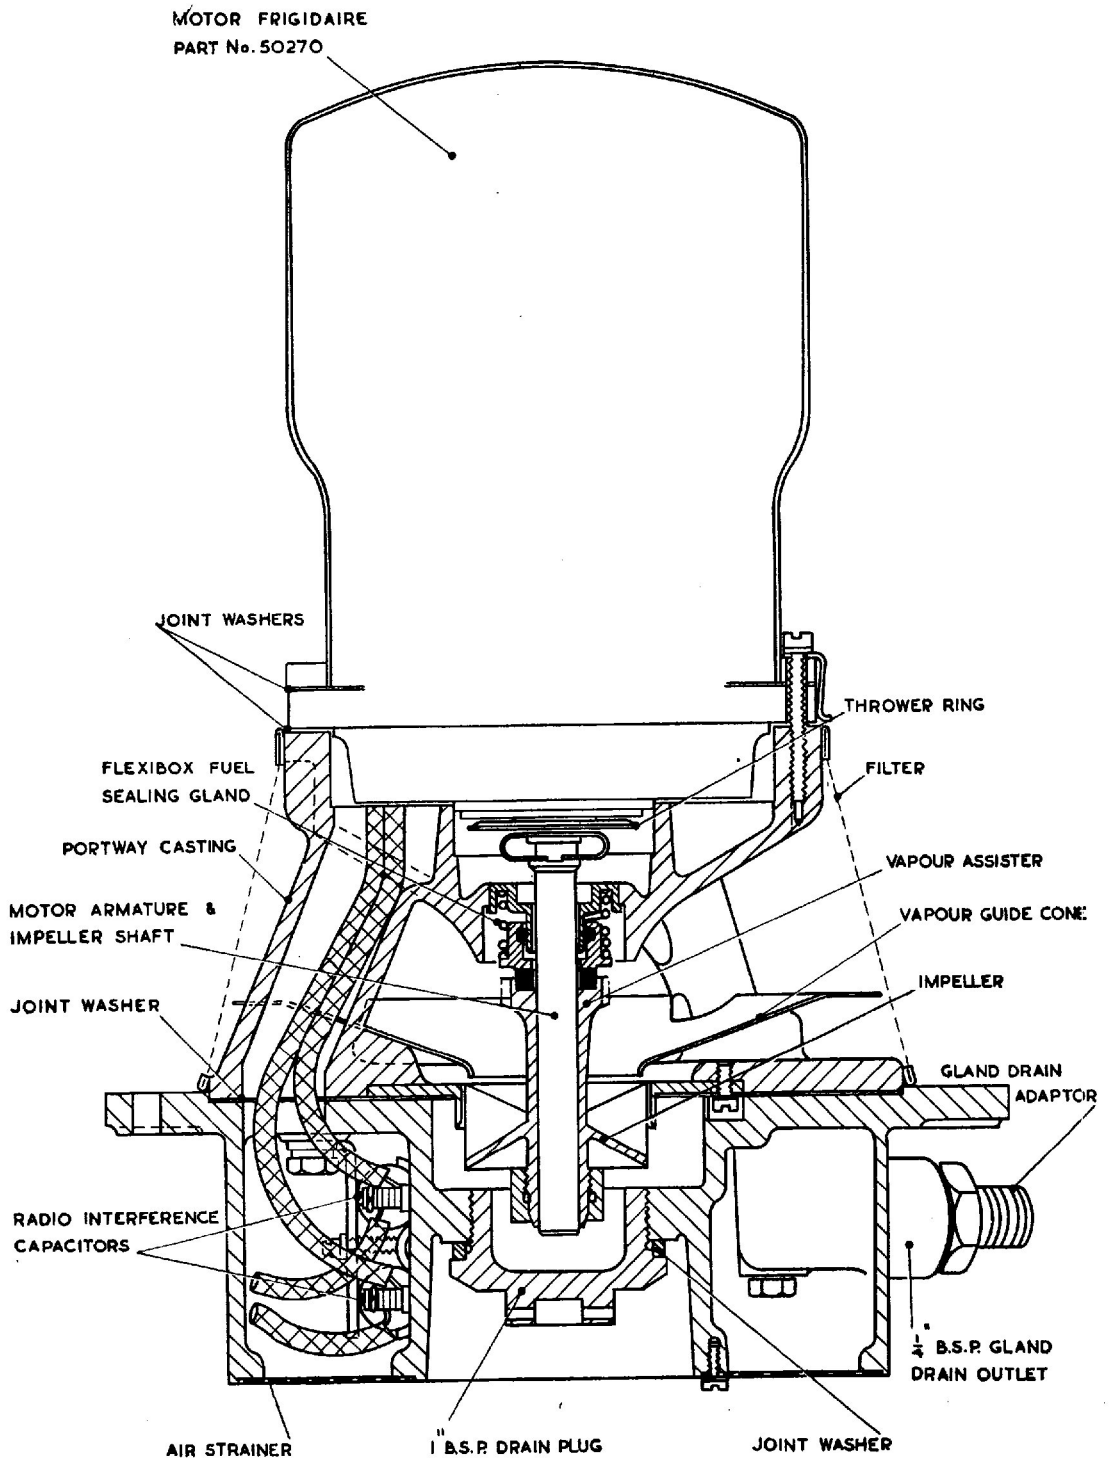

Fig. 2. Sectional view of PUL 407, Mk. 1 fuel pump
2. A sectional view of the pump is shown (fig. 2), and consists mainly of a driving motor, supported in the upper end of the pump body, or portway casting, which in turn is secured to the pump base assembly. A paper washer is provided as a joint, together with a Hermetical Wellseal jointing compound, between the upper face of the pump base, and the portway casting. Fourteen $\frac{7}{32}$ in. clearance holes, equally spaced around the flange, permit the pump to be bolted to the fuel tank, into which the body of the pump extends. Two $\frac{1}{4}$ in. B.S.F., tapped holes, diametrically opposite
10. A radio interference suppressor unit, comprising two capacitors, are fitted in the motor circuit, and are located in the sump of the pump base casting (*fig. 2*).